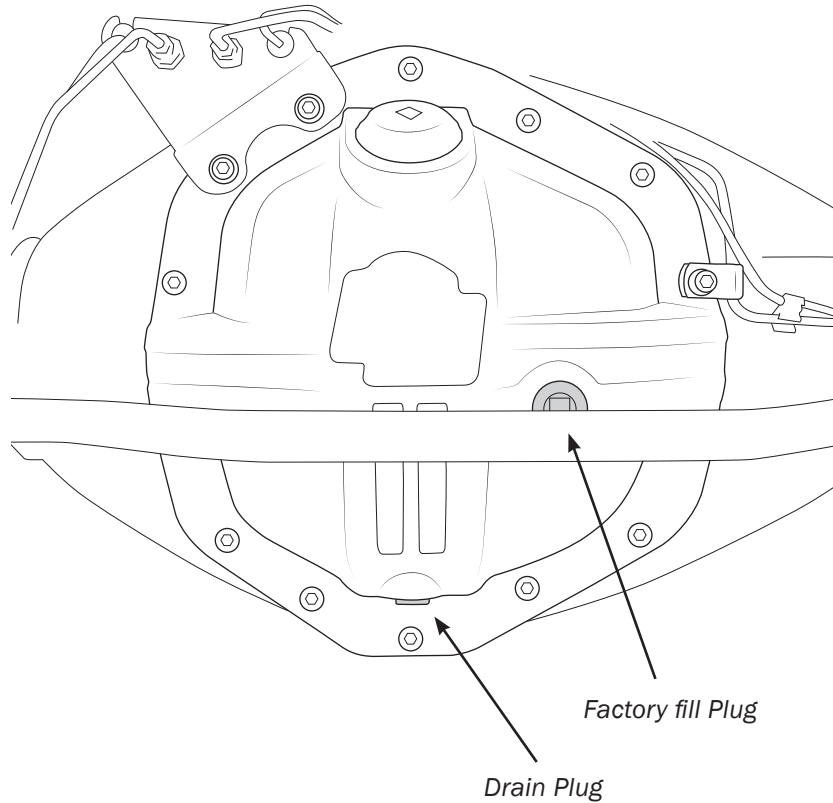

Figure 3
1. Install the black allen-head drain plug into the tapped hole at the bottom of the cover using thread sealer or teflon tape (fig. 3).
3. Reuse factory fill plug and gasket in check hole (fig. 3). Torque to 25 ft-lbs.